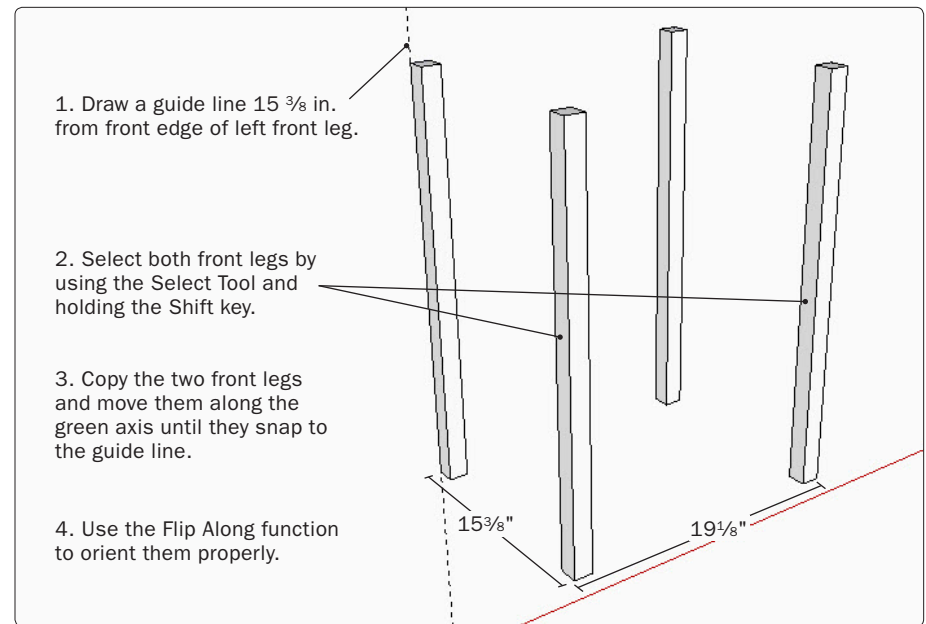

Figure 5. Copy the front legs to make the rear legs.
Step 3 Use the Tape Measure Tool to place another guide line along the green axis to locate the rear legs. Select and copy the two front legs to create the rear legs. Use the Flip Along function along the green axis to mirror the rear legs (Figure 5).